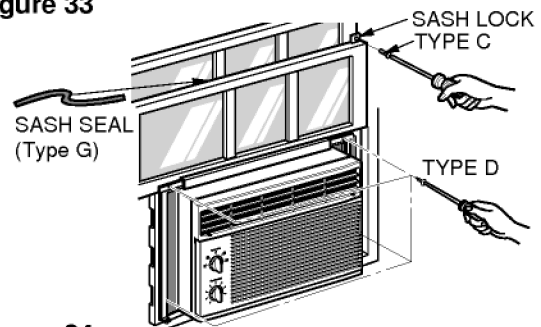

Figure 34
Extend the guide panels to fill the window opening using 4 screws (TYPE D) to secure them, as shown in Figure 34.
- Cut the sash seal to the window width. Stuff the sash seal between the glass and the window to prevent air and insects from getting into the room, as shown in Figure 34.
- Fasten the sash lock using a TYPE D screw, as shown in Figure 34.